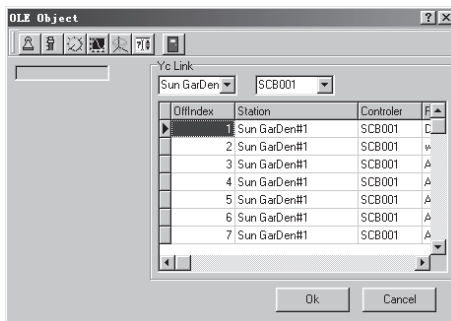

Fig. 4.32
1. Select **and click**  and then move the mouse to the drawing interface, then the dialogue frame, as in Fig. 4.32, will be shown in the system.